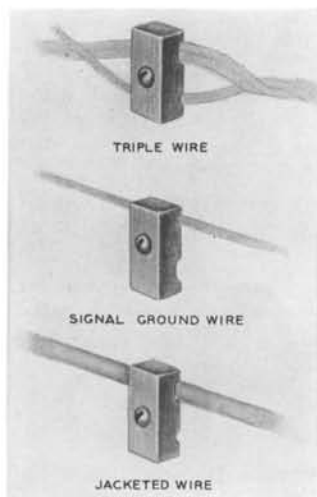

FIG. 20—INSIDE WIRING CLEATS
7.06 Inside Wiring Cleats are shown in Fig. 20.